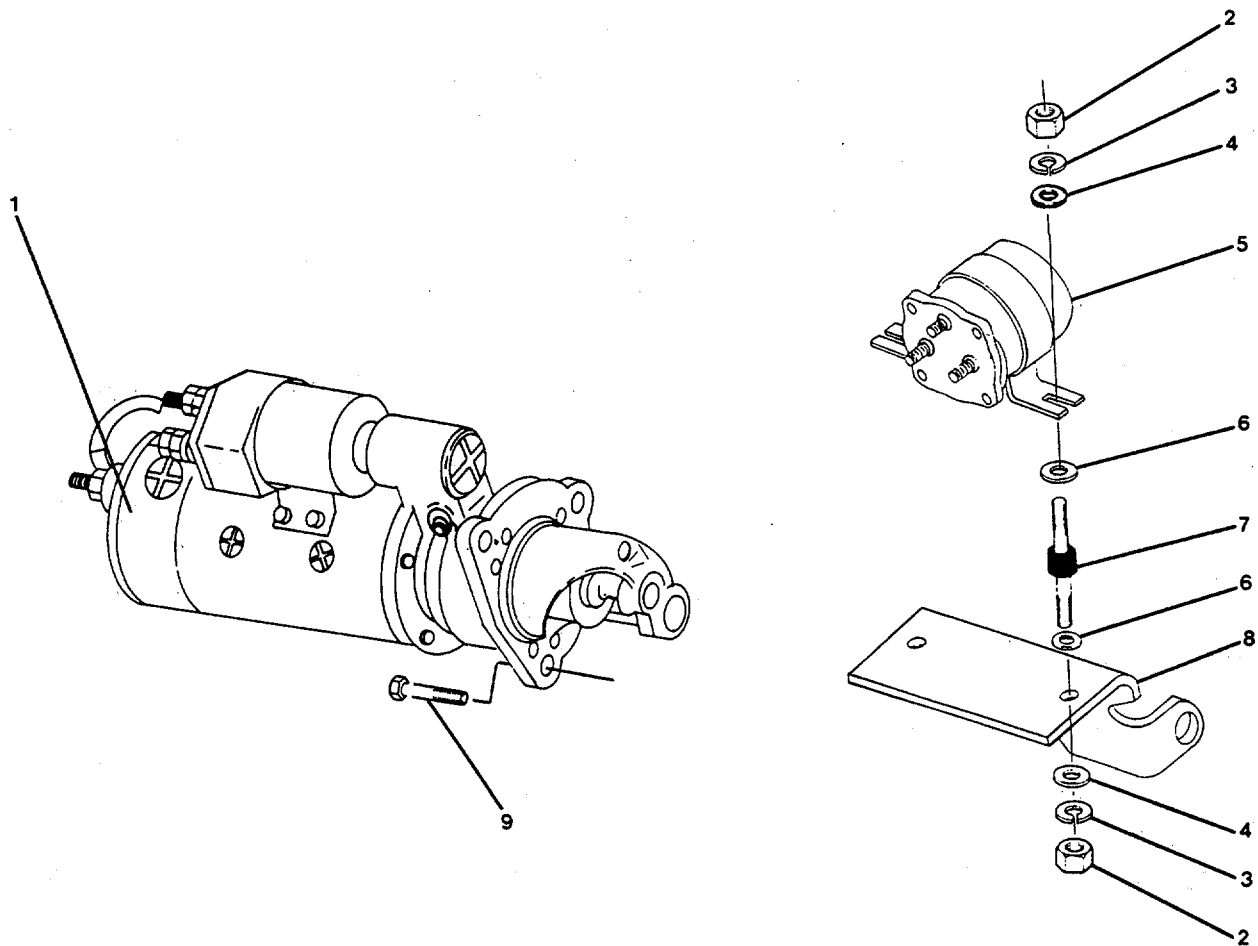

FIGURE 2-5. Electric Starting Motor/Magnetic Switch.
- (3) Tighten to 75 ft-lb (102 N•m) torque.
- (4) Tighten to 100 ft-lb (136 N•m) torque.
- d. Connect the relay valve (2) with bushing (11) and nipple (10).
- e. Connect the air inlet (6), air outlet (7), and vent port (8) lines to the starter. Tighten to 35 in-lb (4 N•m) torque.
- f. Connect the exhaust screen guard fitting (9). Tighten to 65 ft-lb (88 N•m) torque.
- g. Connect the air supply fitting (3). Tighten to 65 ft-lb (88 N•m) torque.
- h. Connect the relay valve input signal port fitting (1) and supply port fitting (4). Tighten fittings to 35 in-lb (4 N•m) torque.
**2-25. Replace/Repair Electric Starting Motor/Magnetic Switch Group. (Figure 2-5).**